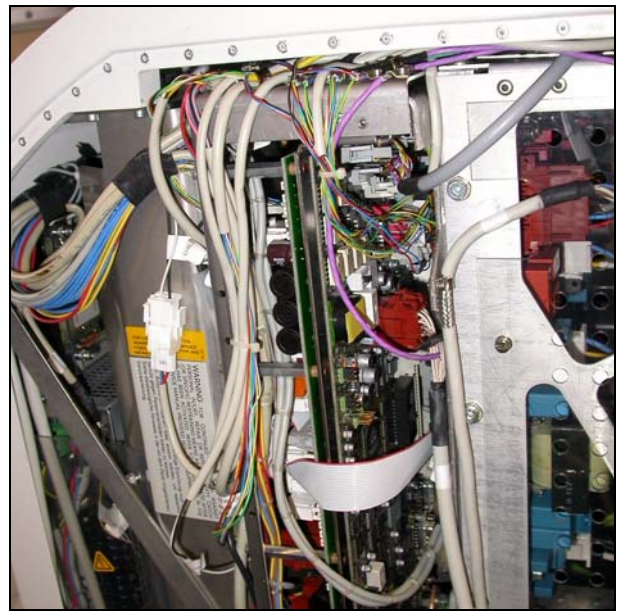

Fig. 16
- Release the frame of the PC boards D1 and D30 on the opposite side of the basic unit, and pull it out to the side (Fig. 16).